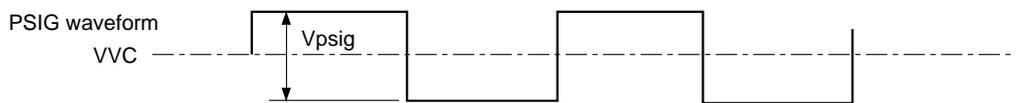

Fig. 1
*4 Input video and uniformity improvement signals should be input with the voltage amplitude symmetrical to V_V as shown in Fig. 1.